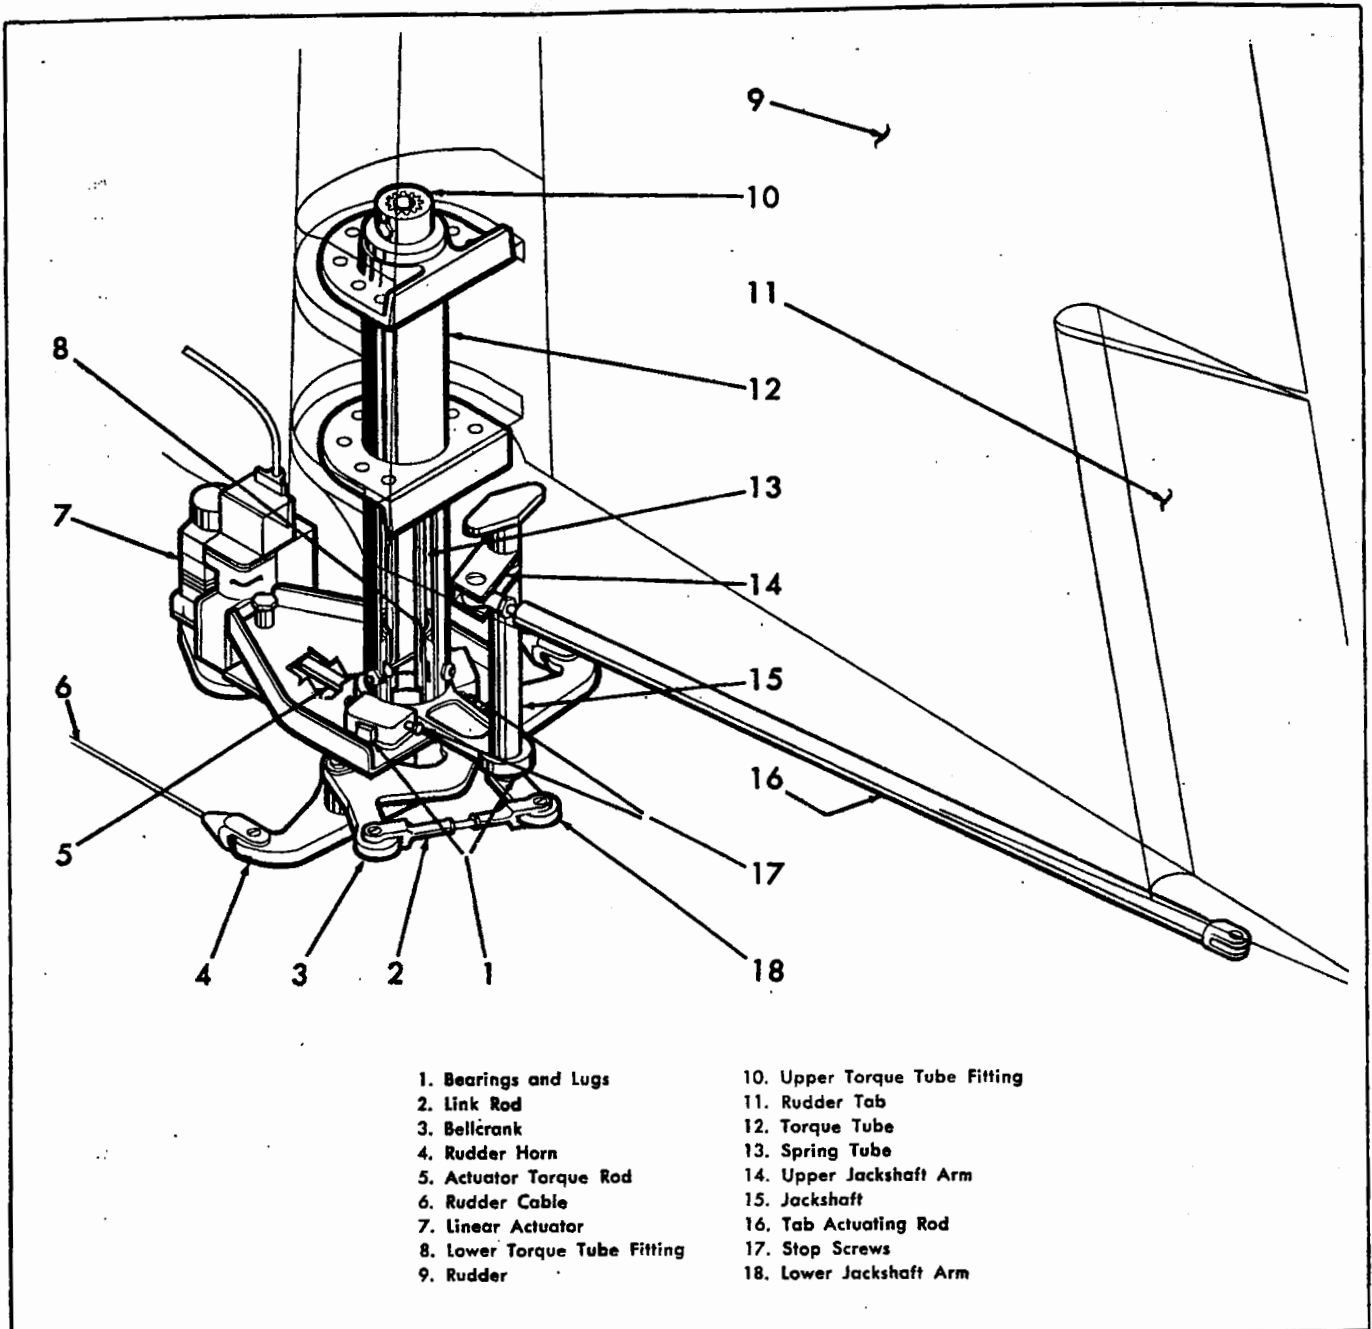

Figure 4-27. Rudder Spring-trim Tab Control System.
4-181. DESCRIPTION. (See figure 4-27.) A combination trim and spring tab is incorporated in the rudder control system as in the elevator control system. Trimming action is obtained electrically through the surface control trim tab switch located on the left hand console, aft of the tab position indicator. (For information on trim tab position indicator, refer to paragraphs 4-1532 through 4-1537.) Moving the toggle switch toward the side desired energizes a linear actuator (7) located in the aft end of the fuselage forward of bulkhead 310 21/32. The actuator rod (5) either extends or retracts the tab through rotation of bellcrank (3) which pivots on the rudder horn (4) moving link rod (2) which rotates the jackshaft (15) and its attached arm (14) through arm (18). Tab actuating rod (16) attached to the upper arm (14) moves fore or aft according to jackshaft movement and displaces the attached tab (11). The balance or "helper" tab reaction is obtained automatically through the spring tube and rudder tab operating linkage of the torque tube assembly. When air loads resist rudder movement and the rudder horn (4) is deflected through rudder pedal operation, the rudder horn is free to rotate in relation to the rudder and its attached fitting (8), both of which are secured to the lower end of the splined spring tube (13). The rudder horn (4) twists the spring tube against its attaching fitting (10) at its upper end which is bolted to the rudder beam. When this torsion occurs, the bellcrank (3)
4-182. REMOVING. (See figure 4-27.) Removal of the trim and spring tab assembly is as follows:
4-185. ADJUSTING. (See figure 4-27.) For information governing adjustment of linear actuator see paragraph 4-141.
4-188. REMOVING. (See figure 4-27.) Through access doors at base of fin in rear of fuselage remove special bolts securing linear actuator in bracket.
4-189. INSTALLING. (See figure 4-27.) Installation of linear actuator is reverse of procedure described for removing. With rudder tab and tab operating linkage in neutral, adjust linear actuator rod (5) to a length of 7 5/16 inches and attach to bellcrank (3).